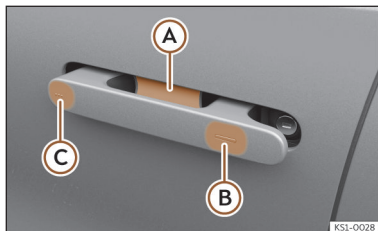

Fig. 70 Door handle: sensor surfaces.
- Press the outer surface of a front handle >>> **Fig. 70** (C) to produce a slight movement. All indicators flash twice and the handle deploys automatically.
- Touch the sensor surface (B) >>> **Fig. 70** on the outside of the door handle. All indicators flash once and all handles retract.
- Within 5 seconds, touch the sensor on the outside of the door handle once >>> **Fig. 70** . Do not grip the handle while doing so. This temporarily deactivates the Keyless Access system.